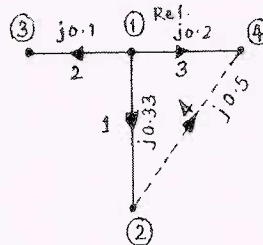

Fig. Q2 (a)
- 2 a. With the help of singular transformation method, determine the bus admittance matrix  $Y_{bus}$  for the power system whose oriented graph is shown in Fig.Q2 (a). Element number and self impedance of the elements in p.u. are karked on the diagram. Neglect mutual coupling. (08 Marks)